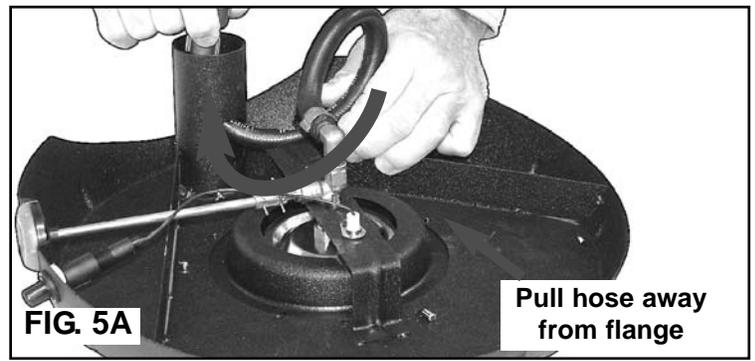

FIG. 5A
STEP 1) Turn Side Burner Table upside down. (FIG. 5A) Pull the hose away from the side burner table flange. Pull threaded coupling end out of collar while feeding the hose through hole in the side of the collar. Pull the hose until the loop is taken out and hose is extended out of the collar. (FIG. 5B)